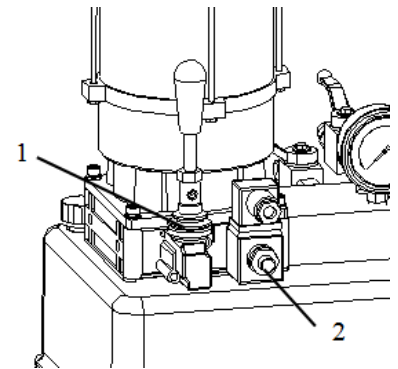

Fig. 11
3. Operate the manual emergency pump (1, fig.11) to lift the lift out of the mechanical locks.
5. Now open the magnetic release valve by turning the emergency screw (2, fig.11) anti-clockwise, now the platform will lower. Tightening or loosening the emergency screw lowers or increases the lowering speed.